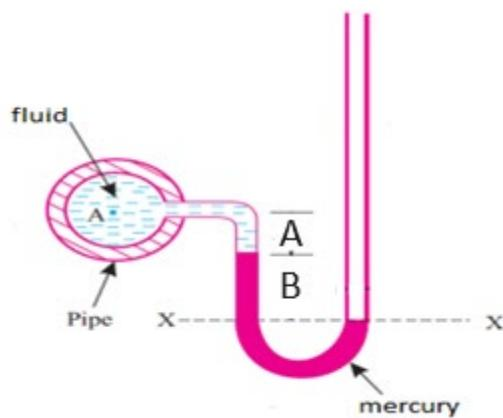

Figure A2(c) / Rajah A2(c)
- CLO1 (c) Manometer is a device that is used for the evaluation of the pressure of a fluid by comparing it with a pre determined column of standard fluid. Based on figure A2(c) below, identify equation for the vacuum pressure (P_A) of a simple U-tube manometer containing mercury that is connected to a water pipe.